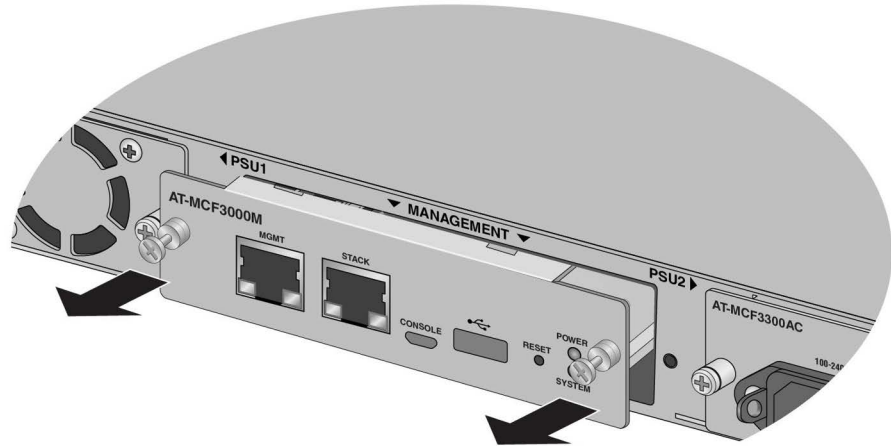

Figure 83. Disconnecting the MCF3000M Management Module from the Backplane Connector
3. Pull on the captive screws to disconnect the module from the connector on the backplane. Refer to Figure 83.